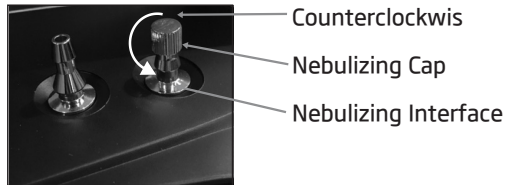

Figure 7: Nebulizing
- ▶ Upward pull out the nebulizing cover on the nebulizing interface. (Figure 7)